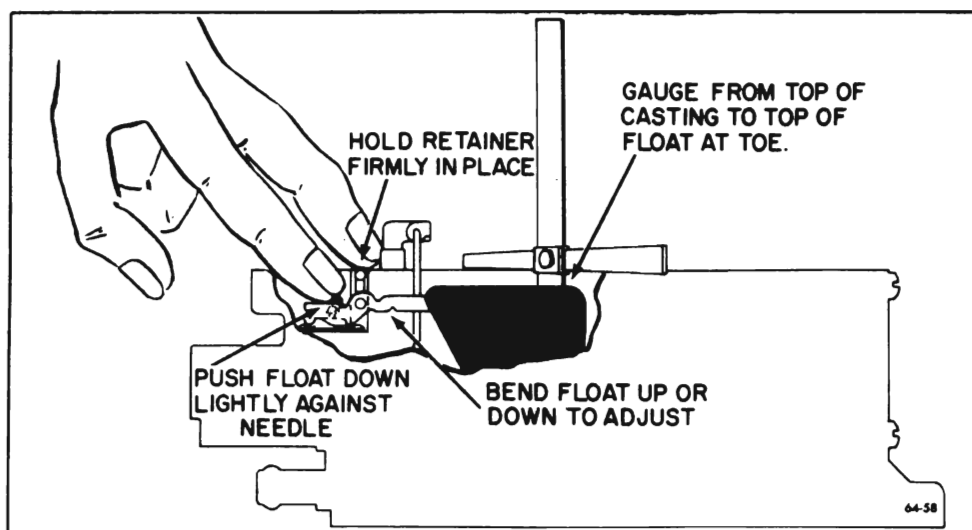

Figure 64-38 Float Level Adjustment
- a. With adjustable T-scale measure from top of float bowl gasket surface (gasket removed) to top of float at toe (locate gaging point 1/16" back from radius at toe). See Figure 64-38.